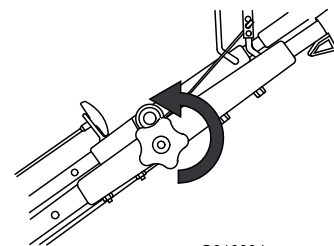

Figure 15
1. Loosen the upper handle knob (Figure 15).